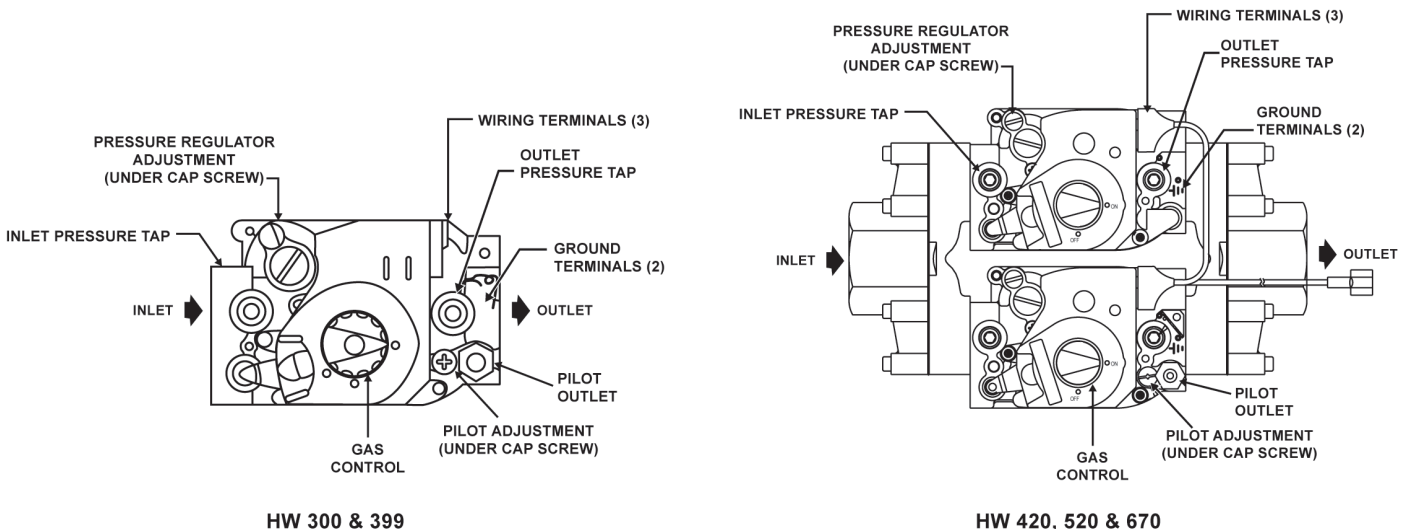

FIGURE 21. ADJUSTING PILOT FLAME
To adjust the pilot flame, remove the cap screw from the pilot adjusting screw (Figure 21) and turn to deliver a sufficient flame at the pilot burner to cover $3/8"$ to $1/2"$ (10-12 mm) of the sensing probe tip. See Figure 20.
- The pilot flame should envelop $3/8"$ to $1/2"$ (10-12 mm) of the tip of the thermocouple. Remove pilot adjustment cover screw, Figure 21. Turn inner adjustment screw or pilot adjusting valve clockwise to decrease, or counterclockwise to increase pilot flame. Be sure to replace cover screw on combination gas control valve after adjustment to prevent possible gas leakage.